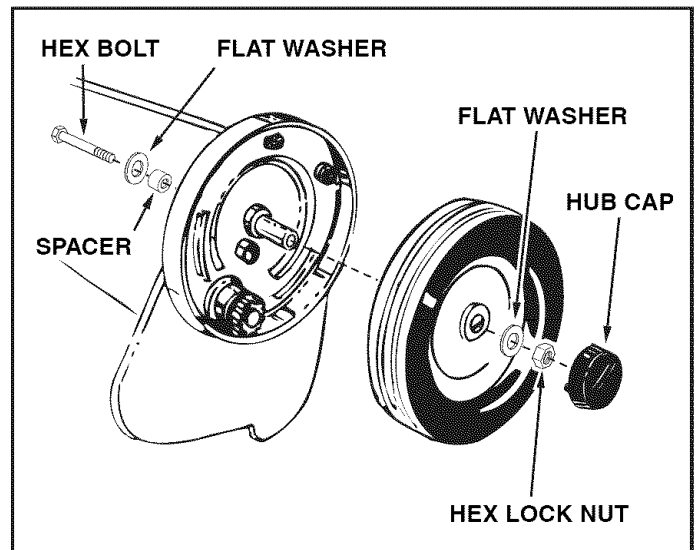

FIGURE 26
- Every two years, remove the wheels and clean the gears found inside the wheel housing. After cleaning, lubricate the gears with an even coat of light grease. To remove the wheel, pop off the hub cap and remove the lock nut and flat washer. See figure 26.